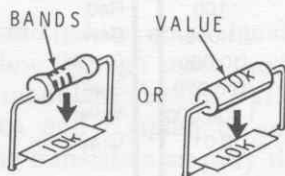

Figure 1
- When you install resistors, always position each resistor so you can read the bands on the resistor in the same direction as you can read the printing on the circuit board (see Figure 1). For resistors that have the value printed on them instead of color bands, install these resistors so the values are facing away from the circuit board and read in the same direction as the printing on the circuit board.